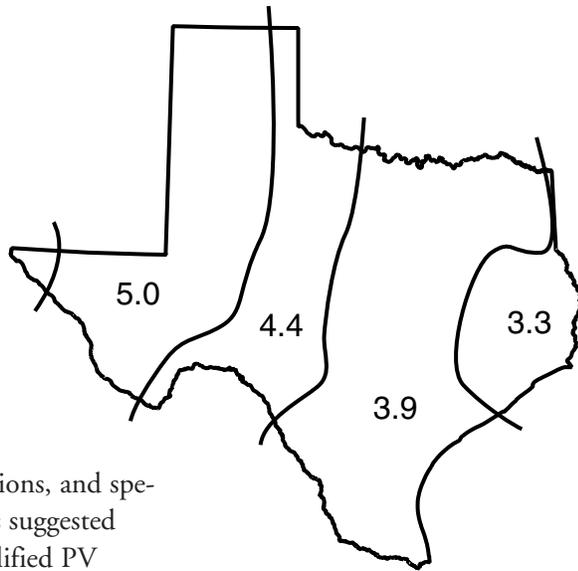

Figure 1 Solar Insolation Map for Texas *This shows the average number of hours of useful sunlight available in December for a PV module at latitude tilt.*
The amount of useful sunshine available for the panels on an average day during the worst month of the year is called the “insolation value.” (We use the worst month for analysis to ensure the system will operate year-round.) In most of Texas, average solar insolation values range from about 3.3 to 5.0 hours per day in December, with the lowest values in east Texas and the highest values in the Panhandle and far west Texas (see Figure 1). The insolation value also can be interpreted as the kilowatt-hours per day of sunlight energy that fall on each square meter of solar panels at latitude tilt.
- b. Determine the hours per day of available sunlight at the site (see Figure 1).